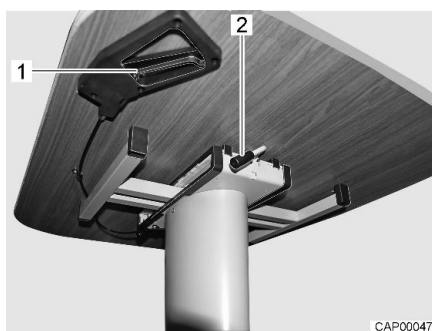

Fig. 41 Moving the lift-off table
- Swivel lever (Fig. 41,2) downwards until it is in a downward vertical position.
- Swivel lever (Fig. 41,2) upwards until the table top is fastened.
- Pull the locking handle (Fig. 41,1).
- Release the locking handle (Fig. 41,1). The table top remains at the adjusted height.